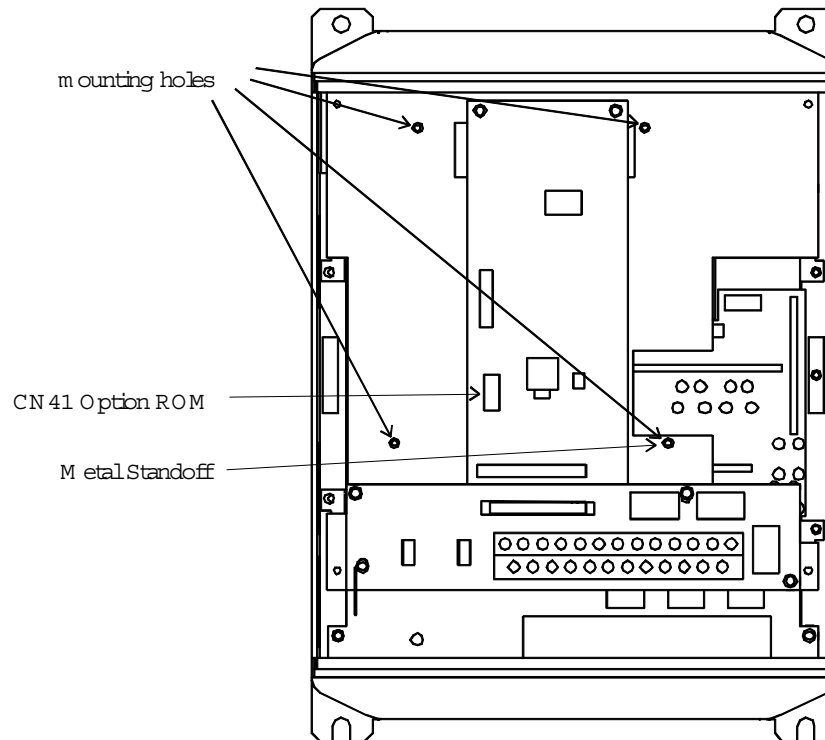

Figure 2: G3 with front cover and operation panel support bracket removed
5. Install the 3 plastic and 1 metal option board standoffs into the holes provided in the control board support bracket. Also the ROM included with the Modbus+ card should be installed into socket marked CN41 (refer to Figure 2).